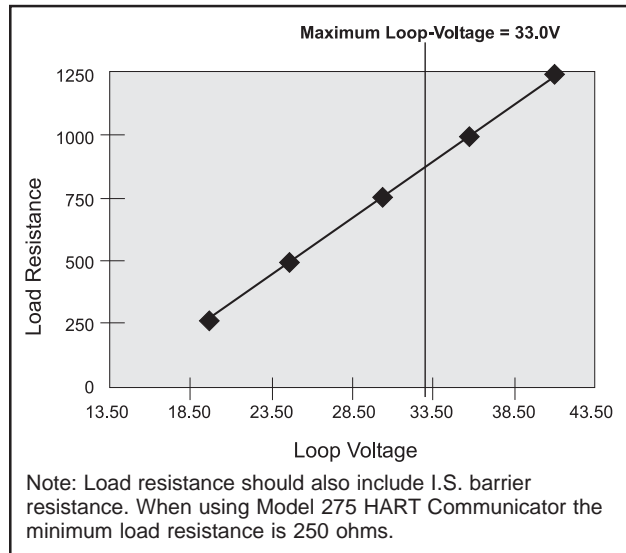

Figure 1-2 Power Supply vs. Maximum Load Resistance
21.0 to 33.5 Vdc Power Supply, refer to Figure 1-2 below.